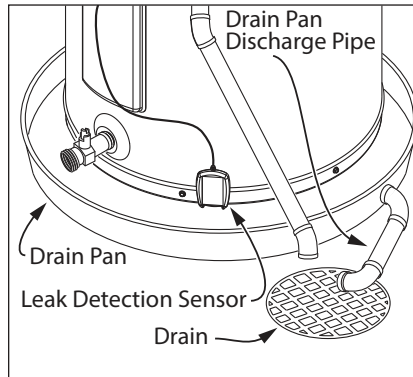

Figure 7 - A suitable drain pan piped to an adequate drain can help protect flooring from leaks and drips.
- Suitable drain pan (Figure 7 on page 8)
- Install a suitable drain pan (available at your local plumbing supplier) under the water heater (Figure 7) to catch condensation or leaks in the piping connections or tank. Most
- In a suitable drain pan piped to an adequate floor drain or external to the building (Figure 7).